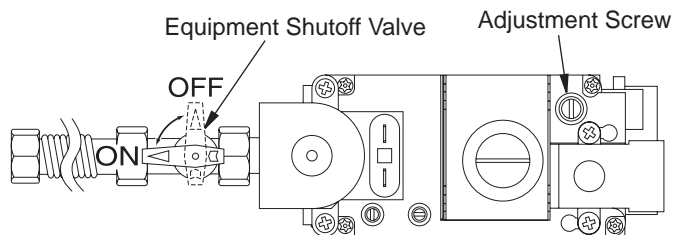

Figure 48 - Turning Equipment Shutoff Valve to the OFF Position
5. Turn equipment shutoff valve clockwise to the OFF position (see Figure 48). Do not force.
6. Wait five (5) minutes to clear out any gas. Then smell for gas, including near the floor. If you smell gas, STOP! Follow "B" in the safety information above. If you don't smell gas, go to the next step.
- Turn the adjustment screw marked PILOT clockwise to decrease or counterclockwise to increase the flame to proper size (see Figure 48, page 23). Do not remove the adjustment screw.